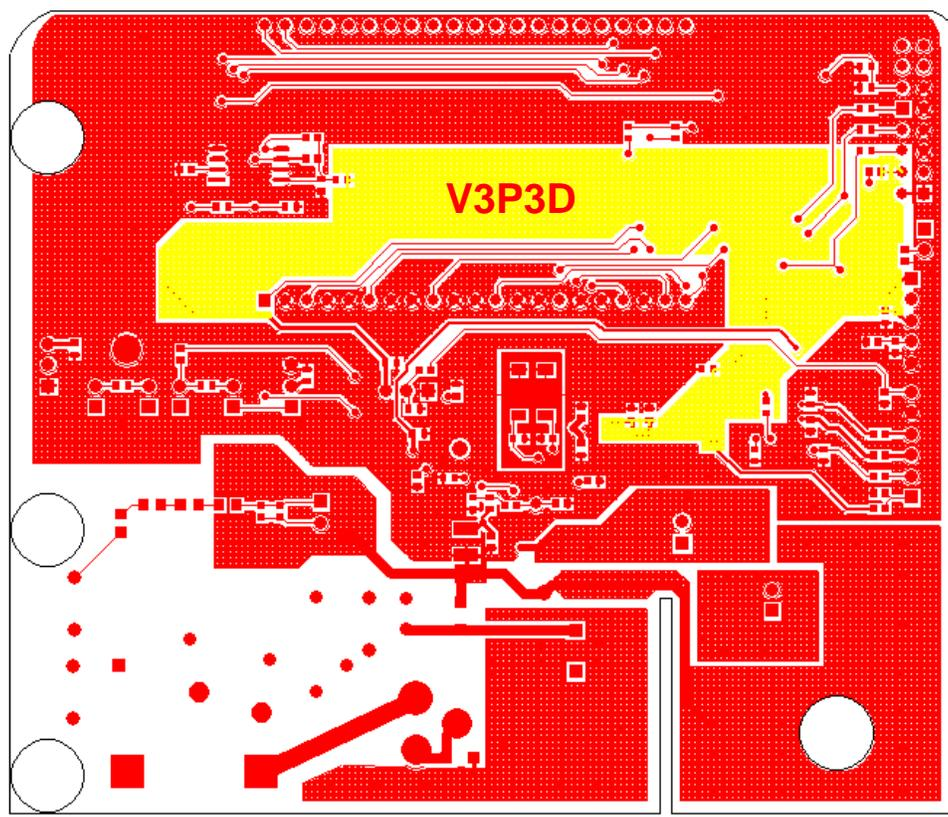

Figure 22: Copper Structure for V3P3D
9. Since the V3P3D net supplies all DIO pins internally and is used as a net for pull-up resistors for a variety of board signals, it should be implemented as a solid copper structure (see Figure 22).